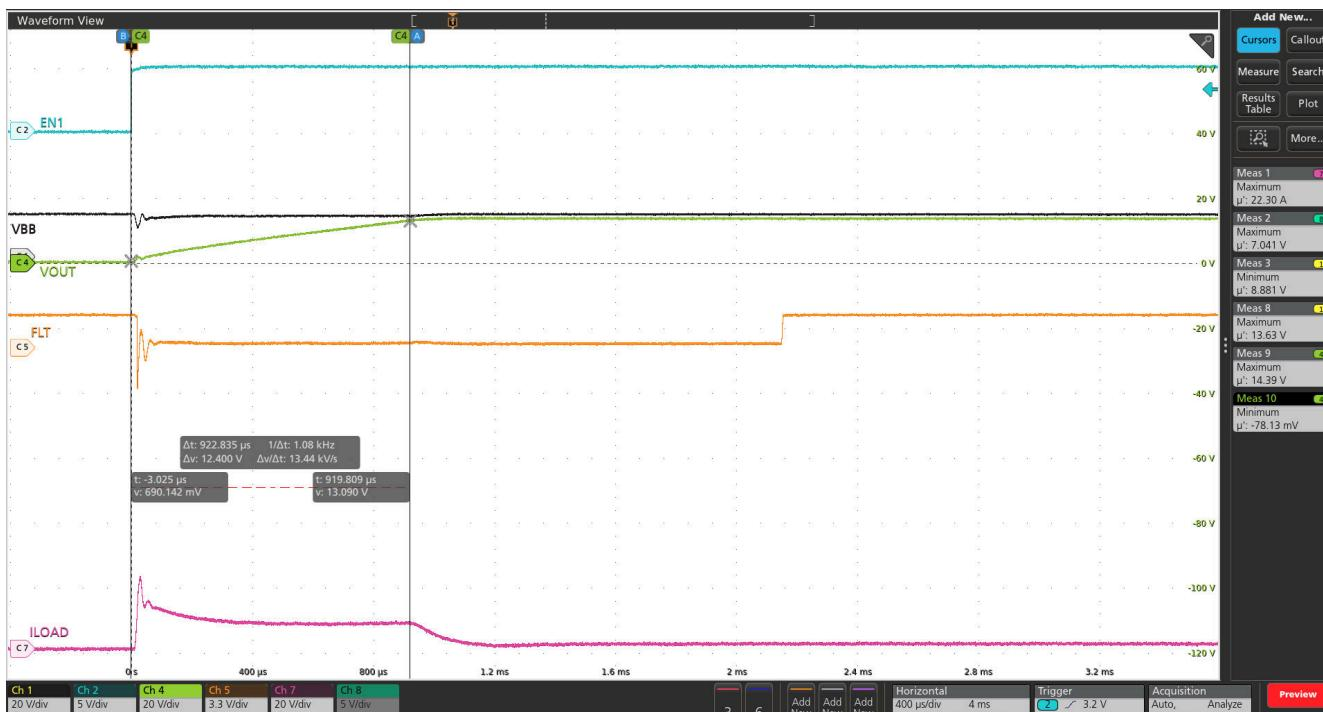

Figure 8-30. 680 μ F Capacitive Load Charging with TPS1HC04-Q1 Device at 13.5V VBB, ILIM Pin OPEN and 125°C Ambient Temperature
- **Expanded Capacitive Load Range:** The thermal-regulated current limiting significantly expands the range of capacitive loads that can be safely charged without triggering thermal shutdown, as shown in Figure 8-30. By dynamically adjusting current based on thermal conditions, the device can handle much larger capacitances than traditional high-side switches.